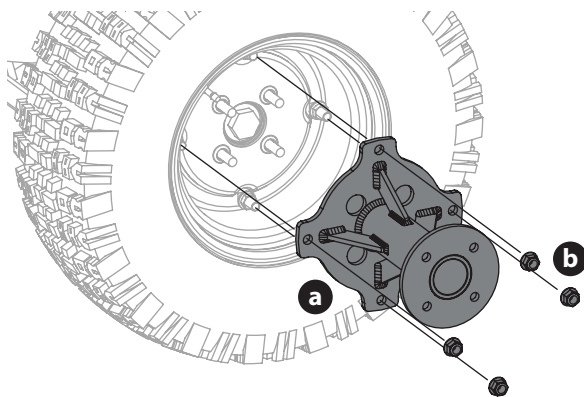

Fig. 52
2. If necessary, remove the dual wheel adapter (a) by removing the four flange lock nuts (b) (Fig. 52).